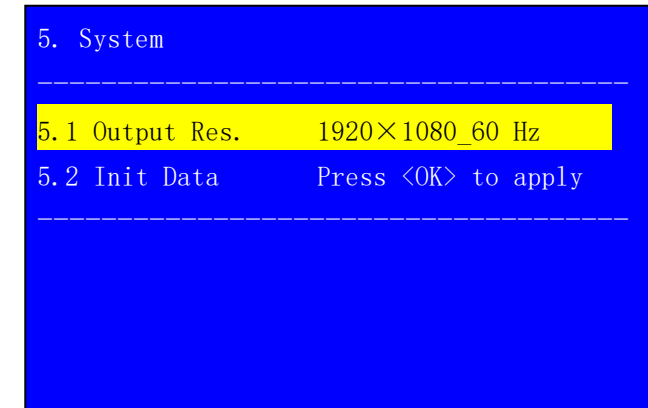

Figure 4-3
- 2.2) As Figure4-3, LCD boot up interface